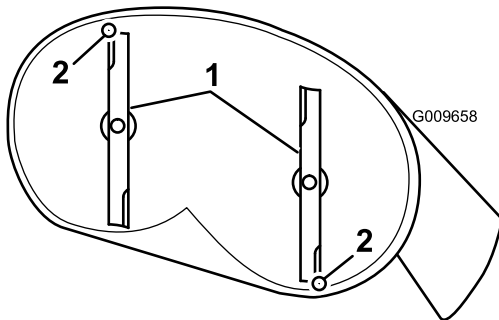
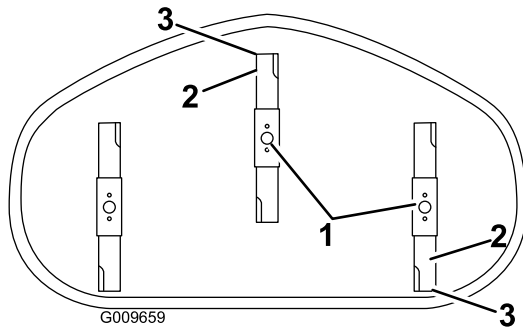

Figure 54
Figure 55
4. Carefully rotate the blades so they are facing front to rear (Figure 54 and Figure 55).
5. Measure from the tip of the front blade to the flat surface and the tip of the rear blade to the flat surface (Figure 54 and Figure 55).
9. After adjustment, check the front-to-rear slope again, continue adjusting the nut until the front blade tip is 1.6 to 7.9 mm (1/16 to 5/16 inch) lower than the rear blade tip (Figure 54 and Figure 55).